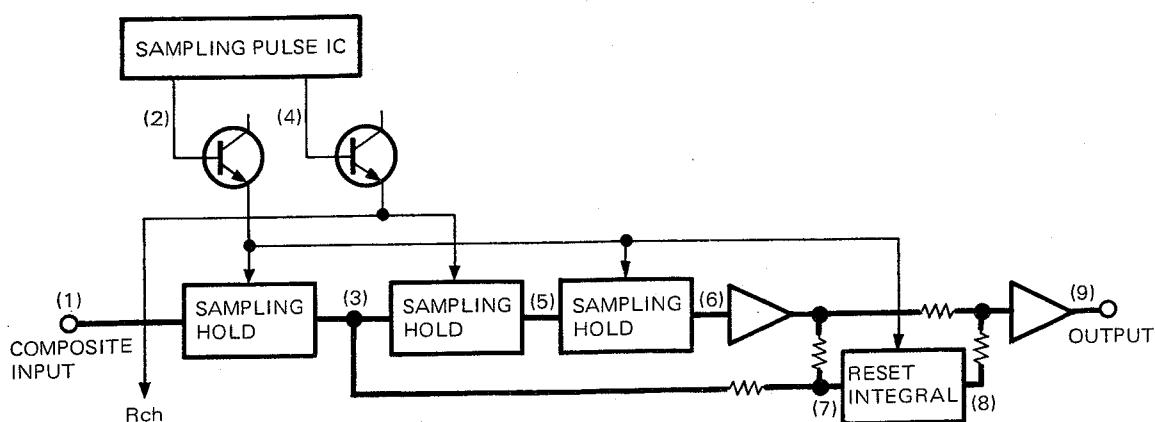

Fig. 4
- IC6 (Pins 5~7),Q13~16 : L-ch driver. 1/76 mS delay. Waveform (3) → (5). See Figure 4.
- IC6 (Pins 1~3),Q17~20 : L-ch driver. 1/76 mS delay. Total delay 1/38 mS. Waveform (5) → (6).
- IC8 (Pins 5~7) : Resets and integrates waveform obtained from the added waveform of the waveform (3) and the inverted waveform (6) [(3) – (6)].
- IC8 (Pins 1~3) : Synthesizes waveforms (6) and (8), and performs SCA rejection.